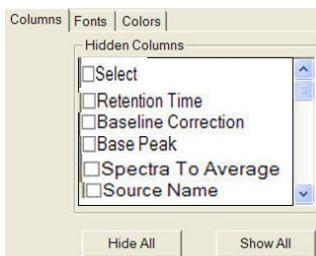

Figure 170 - Peak table columns to be displayed
6. Click **Hide All**, then deselect the columns required to be displayed, see Figure 170.